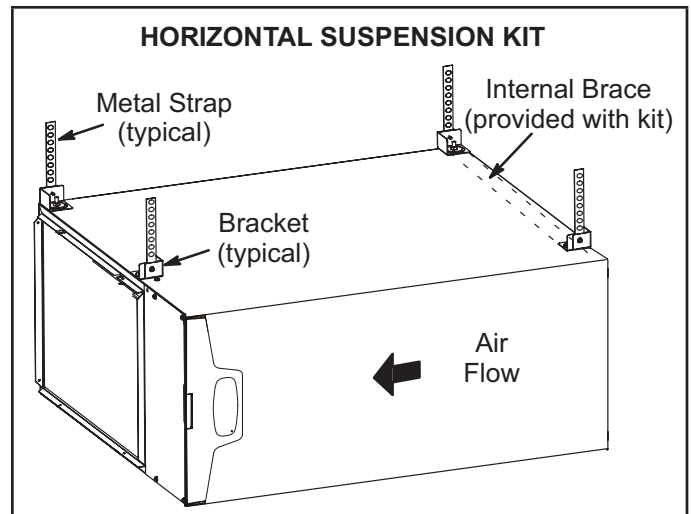

**Figure 17**
The EL297UHVK furnace can be installed in horizontal applications with either right- or left-hand air discharge. Refer to Figure 17 for clearances in horizontal applications.
- 1 - Select location for unit keeping in mind service and other necessary clearances. See Figure 17.